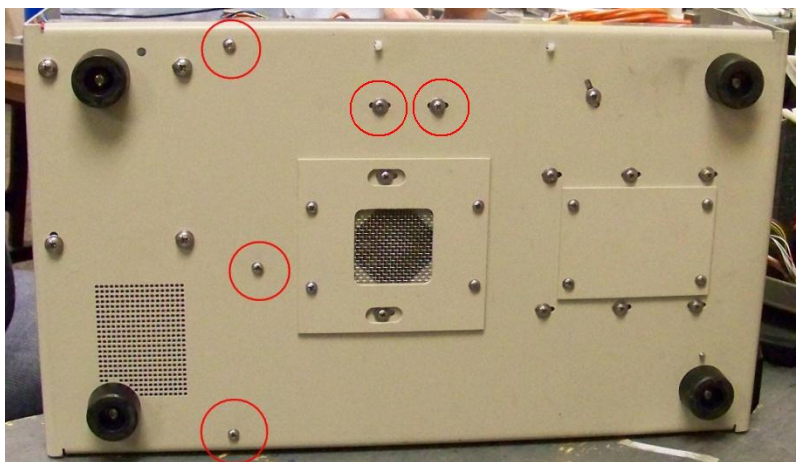

Figure 9-20 Remove the five screws from the bottom of the pump
2. Lay the pump on its side and remove five screws and lock washers, on the bottom of the pump, that secure the circuit board mounting plate and the motor mounting plate to the bottom of the case (Figure 9-20).
5. Lay the pump on its side and align the flat support plate with the two holes in the bottom of the case, then install the two screws with two lock washers into the bottom of the motor plate and tighten screws. (Figure 9-20, top middle screws).
6. While the pump is still on its side align the circuit board assembly so the three mounting holes in the bottom of the case line up with the three mounting holes on the circuit board assembly and install the three screws with three lock washers, but do not tighten at this time (Figure 9-20).
8. Once it has been determined that all wires are clear of being pinched, lay the pump back on its side and fully tighten the three screws to secure the circuit board assembly to the case (Figure 9-20).